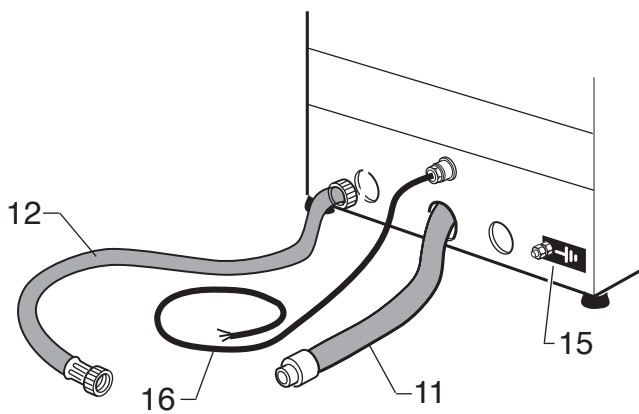

Fig. 6
Dirty filling hose filter.	Disconnect the filling hose and clean the filter (12/13 fig.6).
3.1.a Connecting the drain pipe (Fig. 6)
- Fix the drain pipe (11) to the relative preset outlet.